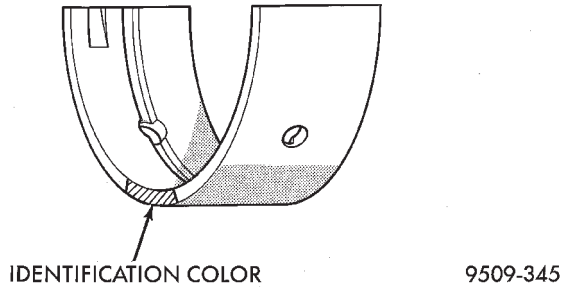

Fig. 21 Bearing Identification
(1) Measure the crankshaft journal diameter and confirm its classification from the following (Fig. 20). In the case of a bearing supplied as a service part, its identification color is painted at the position show in (Fig. 21).